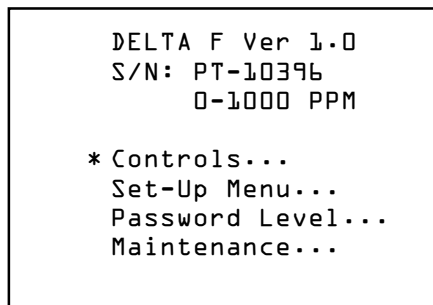
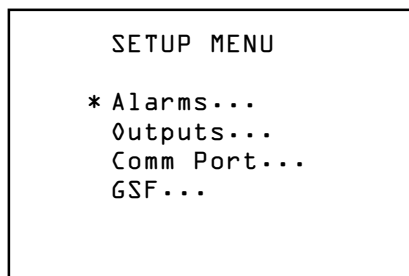

Figure 25: Main Menu
Figure 28: Setup Menu
* **Menu** indicates that if  is pressed, the Main Menu display, Figure 25, will appear.
The Main Menu, Figure 25, is accessed by pressing  from the Data Display Window. Alarm Overlay information will continue to display over the Main Menu.
The Set-Up Menu is used to establish a variety of Analyzer parameters. When the selection is made from the Main Menu, Figure 25, and the appropriate password is entered (if required), Figure 28 is shown.
Each entry in Figure 28 leads to a sub-menu. To select the desired sub-menu, use the ▲ and ▼ keys to place the asterisk next to it, then press ←. A new display will be shown as indicated below.
The Alarms screen is used to set or determine the status of alarms. When the Alarms entry is selected from Figure 28, the display will present Figure 29.
The **Outputs** entry in the Setup Menu, Figure 28, is used to scale the full range of the analog output (voltage and current) over a partial or full range of oxygen concentration.
through the “Analyzer Trouble” relay such that an alarm condition will cause the relay to break the current loop. This method allows a computerized system to be configured to detect an analyzer fault condition whenever the 4-20 mA signal is below 4 mA. After accessing the Outputs on the Setup Menu, Figure 28, the display will be as shown in Figure 33.